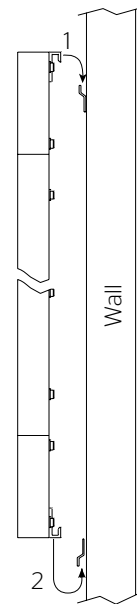

Figure 7
5. Position the screen with the attached surface onto the top wall bracket as shown in Figure 7. Push down at the center of the bottom frame rail to hook onto the lower wall bracket.
6. Position the screen with the attached surface onto the top wall bracket as shown in Figure 7. Push down at the center of the bottom frame rail to hook onto the lower wall bracket.
4. Position the screen with the attached surface onto the top wall bracket as shown in Figure 7. Push down at the center of the bottom frame rail to tension the fabric. Mark the screw holes for the bottom brackets. Drill holes in wall and attach the brackets to the wall with screws.